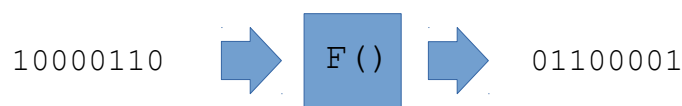

Figure 4 : bit reverse
Each 16bit value stored in memory is split into left (L) and right (R) bytes. These are combined using an encryption function $F()$ and the bitwise XOR function \oplus , to produce the new left (NL) and right (NR) bytes. The encryption function $F()$ used is a simple bit reverse, as illustrated in figure 4.